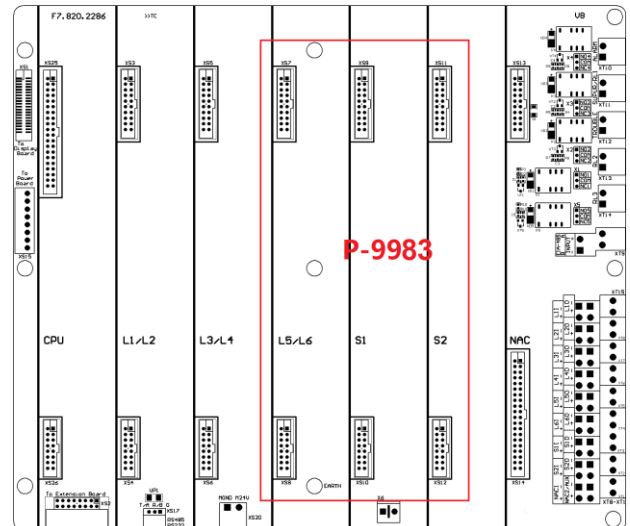
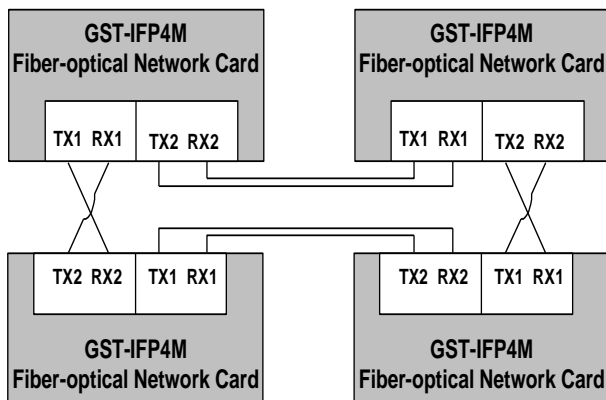

Fig. 2
Fig. 1 Fiber Ring Network
- ✧ One GST-IFP4M control panel can connect max three P-9983 cards, refer to Fig. 2.
The position of P-9983 card is shown in Fig. 2. P-9983 Fiber-Optical Network Card can be plugged into L5/L6, S1 or S2 slot of MB-400 Mother Board. Maximum three Network cards, including P-9966A or P-9983 may be used in the panel.
The position for the fiber interface is on the fiber network card. Fig 1 shows the connection between the P-9983 Fiber-Optical Network Card.
P-9983 Fiber-optical Network Card is inserted into mother board slots of the control panel as shown in Fig.2. Ring network is formed though twisted pair as shown in Fig. 1.
Messages cannot be transmitted.	<ol style="list-style-type: none"> 1. Check if the communication is normal according to status of LED HL1 and HL2. 2. Check if the connection is correct according to Fig. 1. 3. Check addresses of control panels in turn.